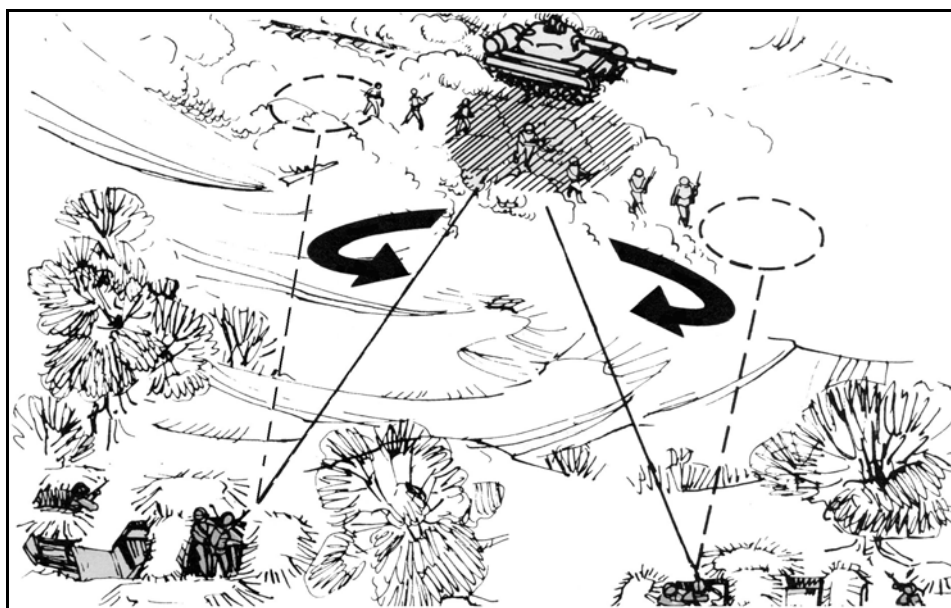

Figure 5-17. Engagement of linear target with depth with a pair of gunners.
(4) *Linear Target With Depth*. When using a pair of machine guns to engage a linear target with depth, the initial point of aim and the extent of manipulation for both gunners is the same as those prescribed for linear targets (Figure 5-17).